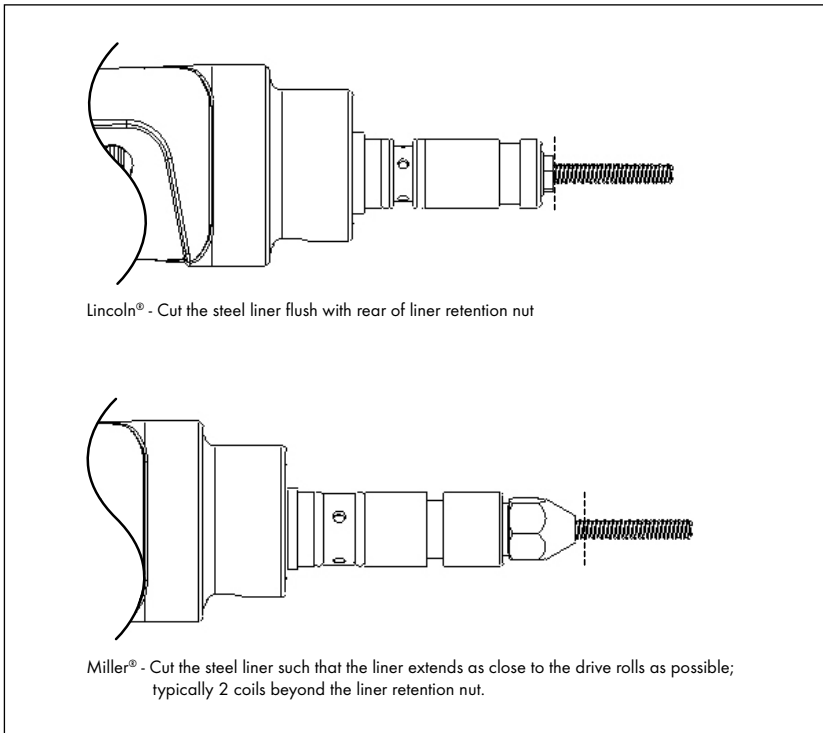

Fig. 6
4. For pass-through liners **(5)** which extend through the retention nuts, the liner should be cut flush with the retention nut on Lincoln and Hobart/Tweco direct rear connections. For Miller rear connections, the liner should protrude 2mm (2 coils) beyond the liner nut as shown in Fig. 6.
For Lincoln and Hobart/Tweco direct connect rear ends, the liner should be trimmed flush with the liner nut. For Miller direct connect rear ends, the liner should extend as close as possible to the drive rolls; which is typically 2mm beyond the liner retention nut. See Fig. 6.